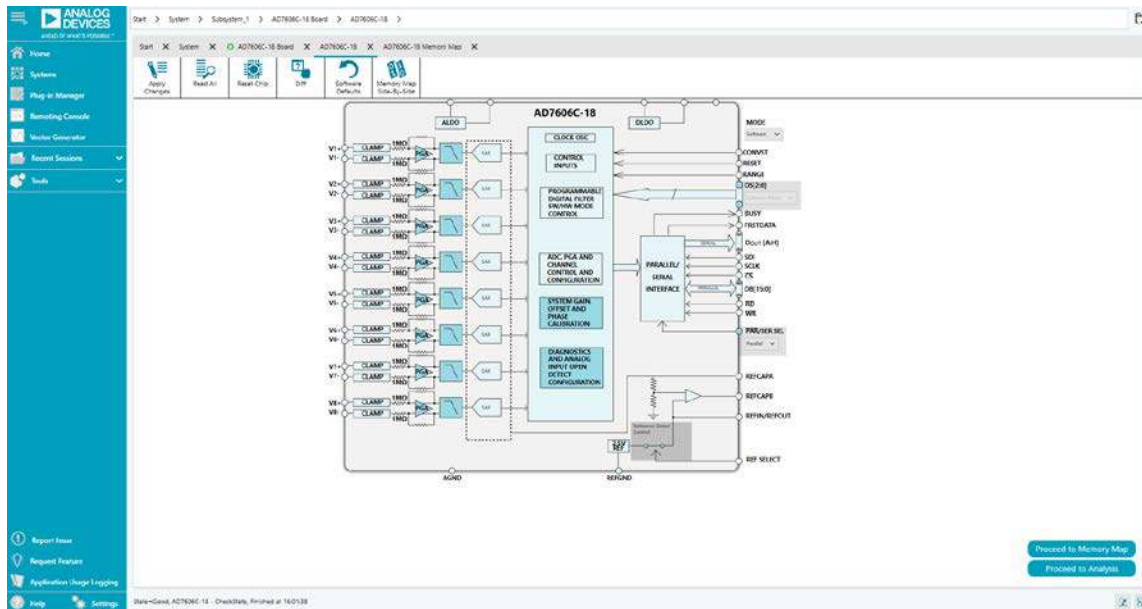
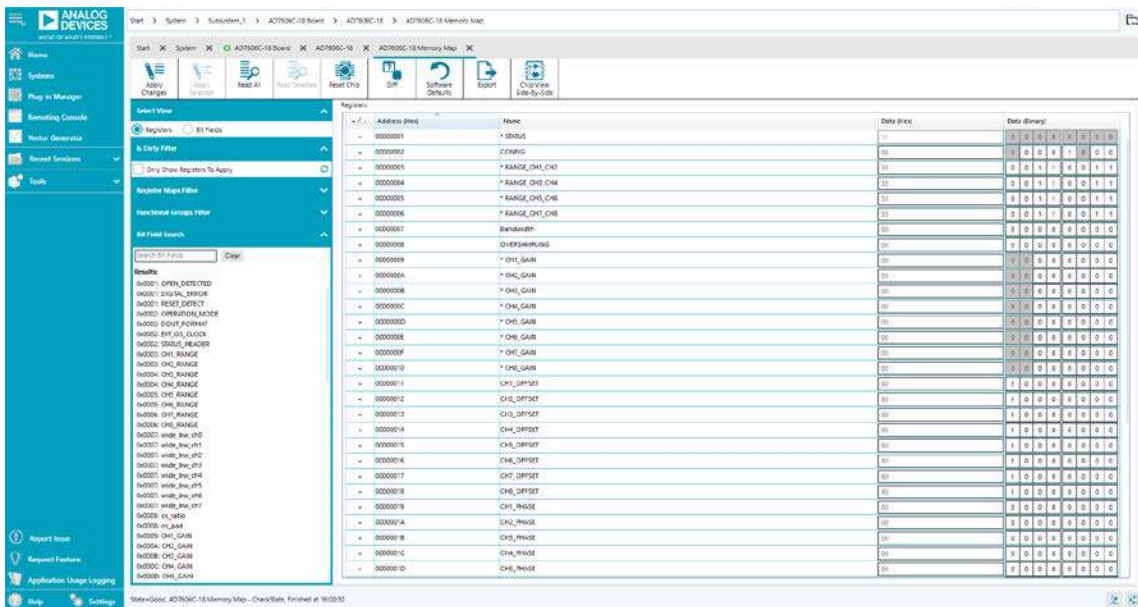
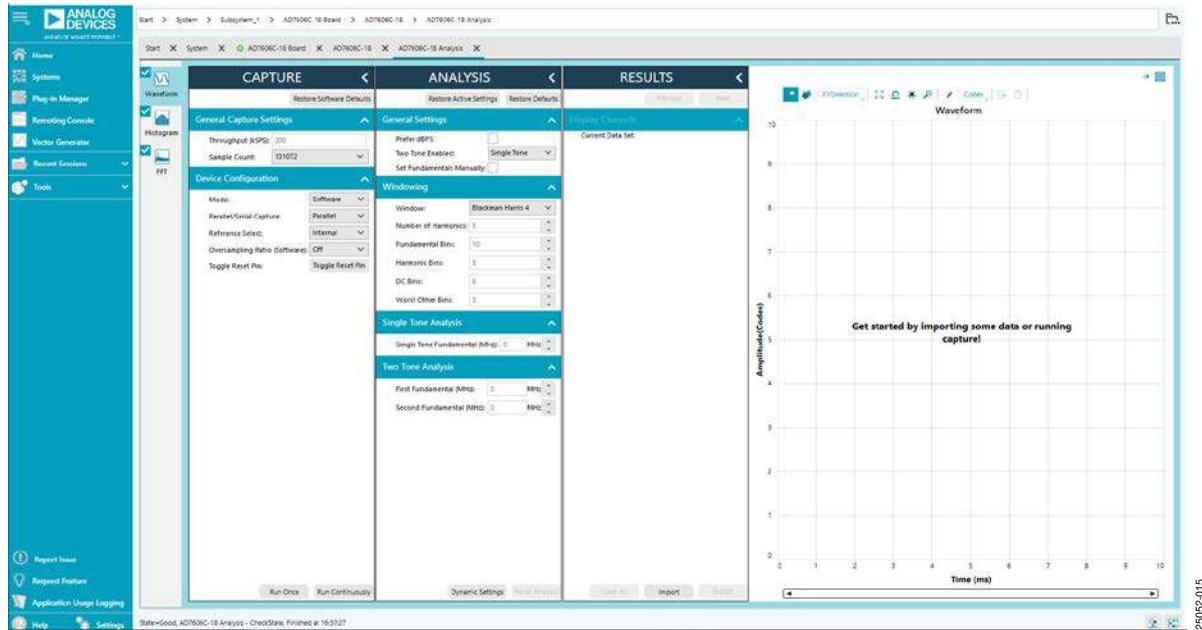

Figure 12. AD7606C-18 Chip View Window
Figure 14. AD7606C-18 Memory Map View Window
Figure 15. AD7606C-18 Analysis View Window
4. Double click the **AD7606C-18** chip icon in the **AD7606C-18 Board** view window to open the **AD7606C-18** chip view window shown in Figure 12.
Click **Proceed to Memory Map** in the AD7606C-18 chip view window (see Figure 12) to open the AD7606C-18 **Memory Map** view window shown in Figure 14. The AD7606C-18 **Memory Map** view window shows all registers of the AD7606C-18.
Click **Proceed to Analysis** in the AD7606C-18 chip view window (see Figure 12) to open the AD7606C-18 Analysis view window shown in Figure 15. The analysis view window contains the **Waveform** tab, **Histogram** tab, and **FFT** tab.